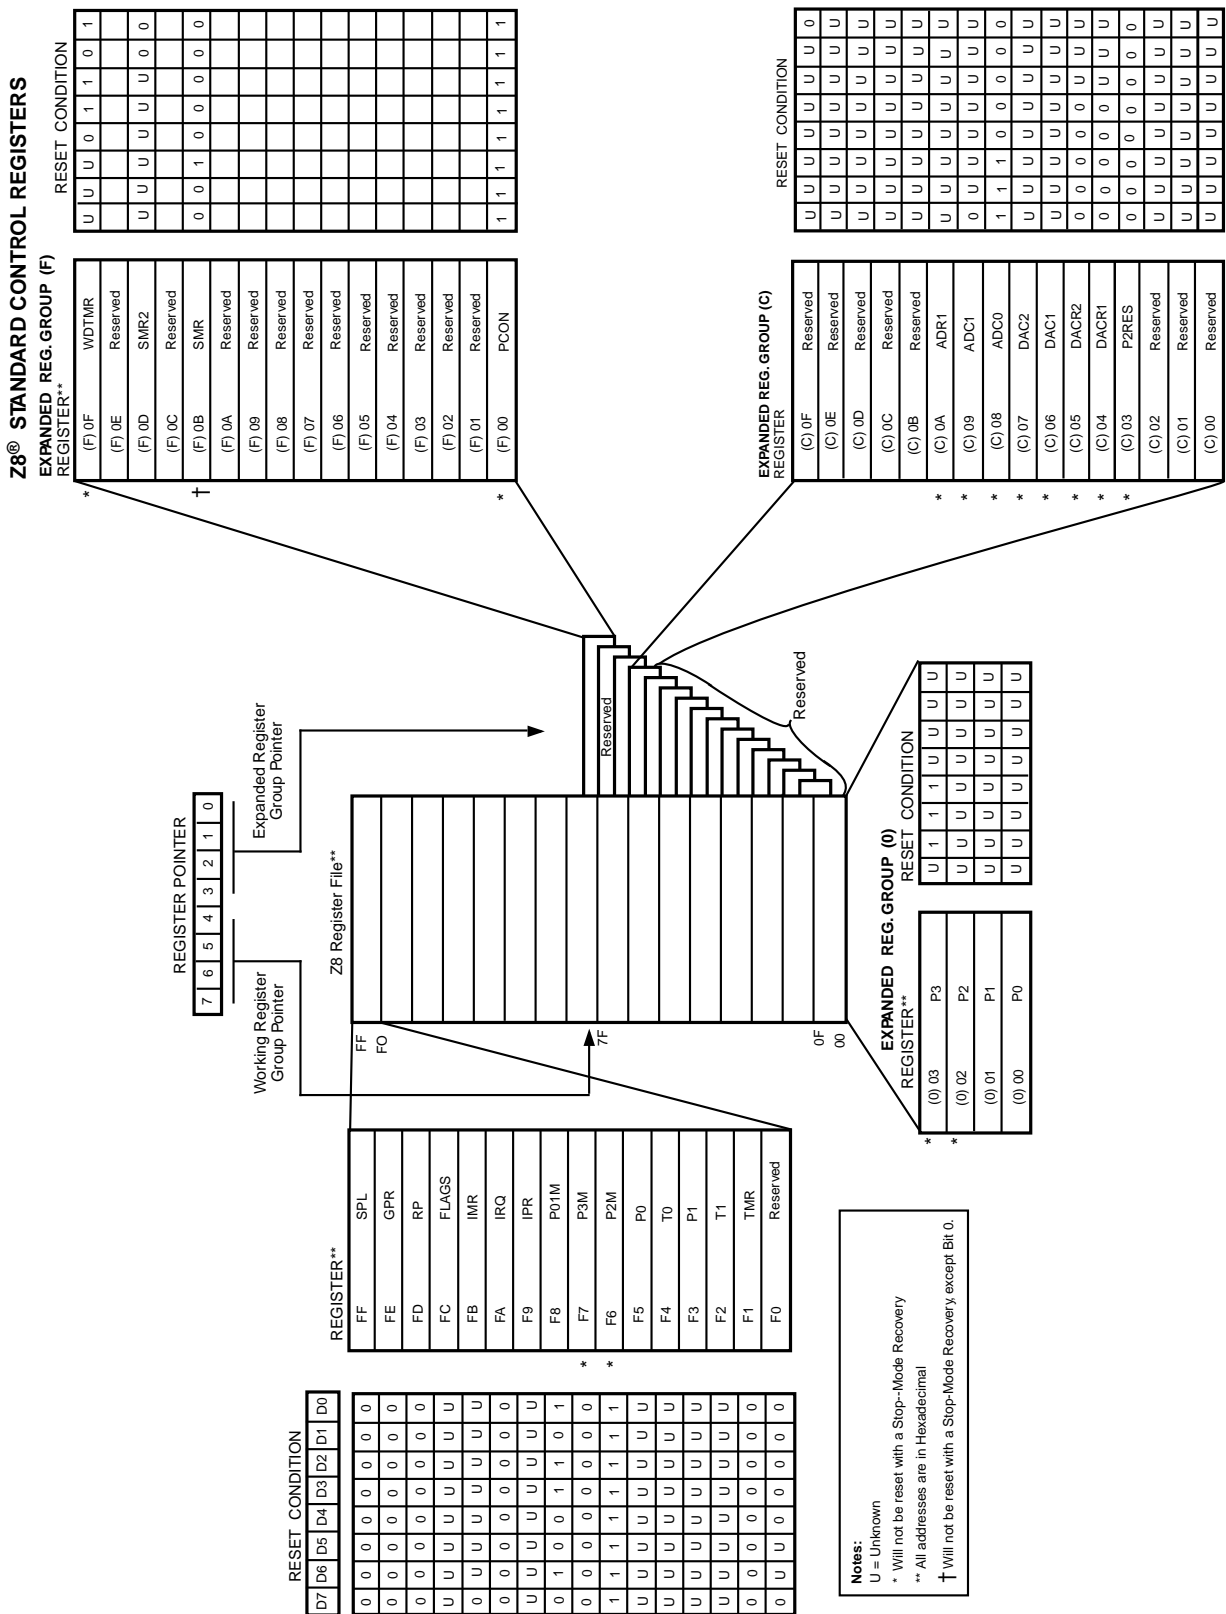
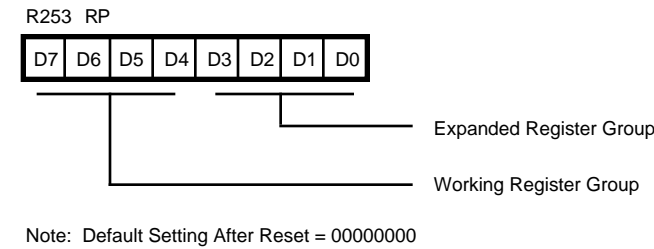

Figure 16. Expanded Register File Architecture
Figure 17. Register Pointer Register
Expanded Register File. The register file has been expanded to allow for additional system control registers and for mapping of additional peripheral devices and input/output ports into the register address area. The Z8 register address space R0 through R15 is implemented as 16 groups of 16 registers per group (Figure 16). These register banks are known as the Expanded Register File (ERF). Bits 3-0 of the Register Pointer (RP) select the active ERF bank. Bits 7-4 of register RP select the working register group (Figure 17). Four system configuration registers reside in the ERF address space in Bank F and eight registers reside in Bank C. The rest of the ERF addressing space is not physically implemented, and is open for future expansion.
Register File. The Register File consists of three I/O port registers, 237 general-purpose registers, 15 control and status registers, and four system configuration registers in the Expanded Register Group (Figure 16). The instructions can access registers directly or indirectly through an 8-bit address field. This allows a short 4-bit register address using the Register Pointer (Figure 18). In the 4-bit mode, the Register File is divided into 16 working register groups, each occupying 16 continuous locations. The Register Pointer addresses the starting location of the active working-register group.